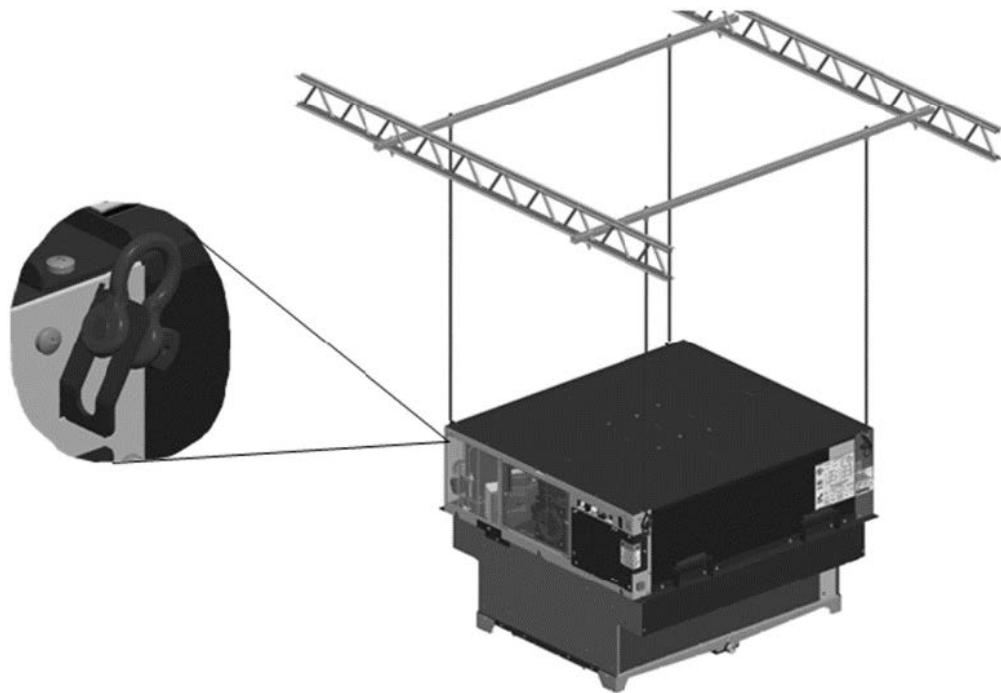

Figure 8 – Example of Suspended/Hang unit mounting: Suspended by clevises
- Suspended/Hang – In this configuration, the unit is suspended by a structure above the chamber with hanger rods and fixed in the unit clevises (supplied with the unit), according to the instructions described in Figure 8. The mounting structure and hanger rod kit are not included with the product.